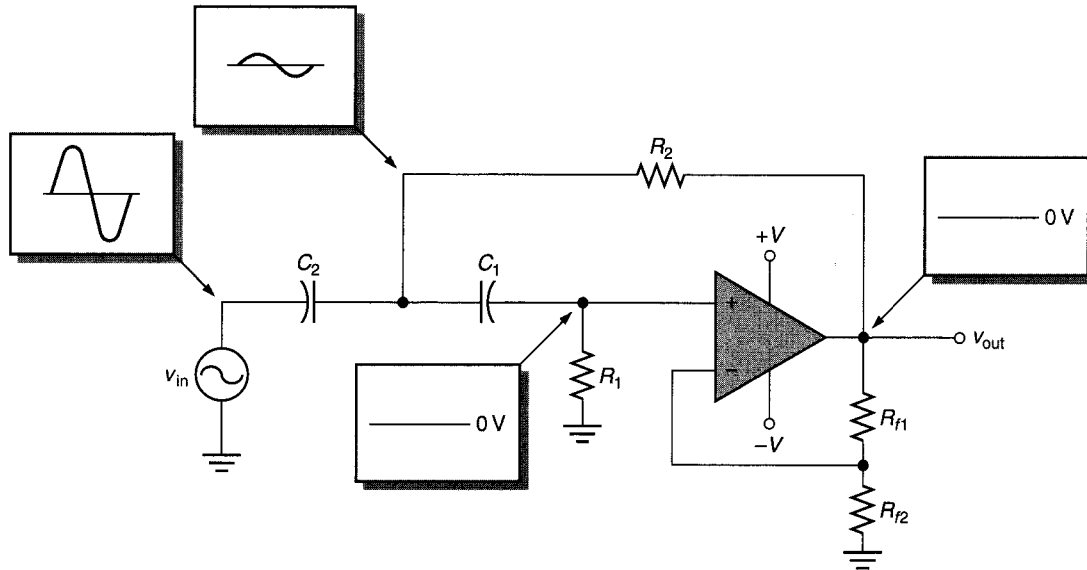

FIGURE 17.61
33. What fault is indicated by the readings in Figure 17.61? Explain your answer.